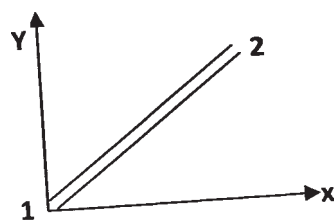

Fig.4
- b) Assemble the stiffness matrix for the member of plane frame shown in fig. 4., if it is oriented at angle  $30^\circ$  to the x axis. Take  $E=200 \text{ GPa}$ ,  $I = 4 \times 10^{-6} \text{ m}^4$  and  $A = 4 \times 10^{-3} \text{ m}^2$  and length of frame member  $L = 5\text{m}$ . [8]